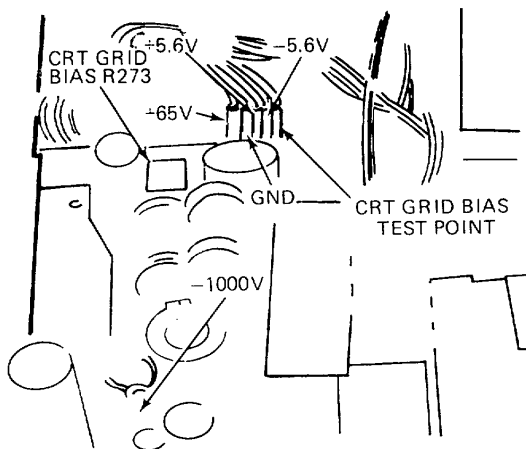

Figure 4-1. Location of power supply test points and CRT Grid Bias adjustment.
a. Using the DC voltmeter, measure the DC level of the power supplies given in Table 4-2. Observe proper meter polarity. See Fig. 4-1 for test point locations.
2 of plug P3 (negative meter lead to pin 2) on the Power Supply Board. See Fig. 4-1.
- d. ADJUST-CRT Grid Bias, R273 (see Fig. 4-1) for a meter reading of +1.9 volts.